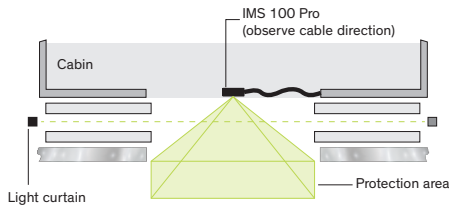
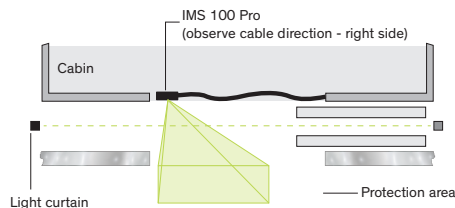
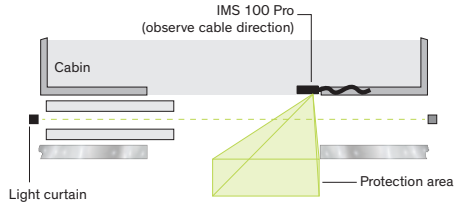

Figure 2: Mounting position - center opening door
Figure 3: Mounting position - right side-opening door
Figure 4: Mounting position - left side-opening door
In general the IMS 100 Pro can be installed left, center and right of the door opening. The IMS 100 Pro works reliable for most of the applications. However, for some very seldom use cases of very shiny and slow moving elevators doors a special configuration of the IMS 100 Pro should be used for right opening doors (mounting left side of the transom; see Figure 3, 11 and 12). This special configuration is called IMS 100 Pro-L. The dimensions and the installation of an IMS 100 Pro-L are equal to those of a IMS 100 Pro.
- ▶ Cable exits right facing into the elevator cabin (Figure 2, Figure 3, Figure 4)